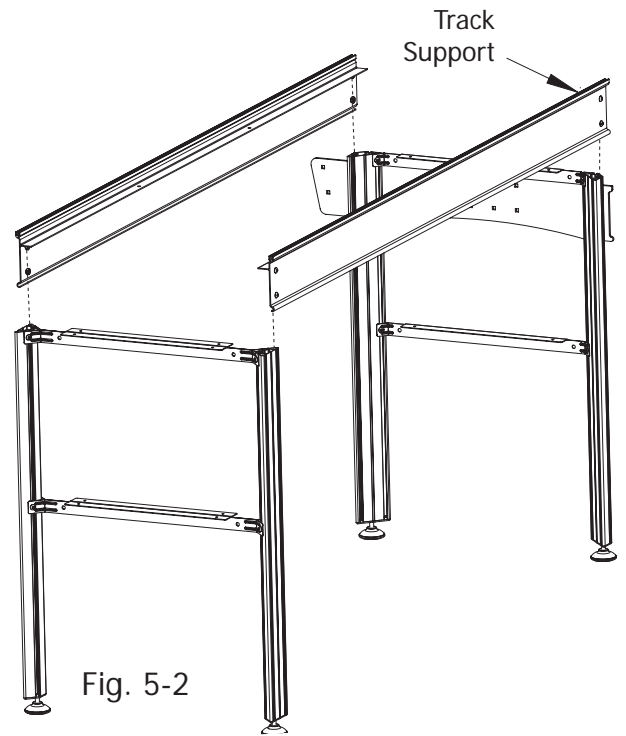

Fig. 5-2
6-3: Attach the other end of the Track Support to the Middle Leg, (part of the Table Sub-Assembly) by sliding the two (2) Square Nuts into the "T" slot in the Leg as done in Step 5-3, and as shown in Fig. 5-2. **(Leave all four (4) of the 6mm X 10mm SBHC Screws in the Middle Leg loose. They will be tightened in Step 8-2)**